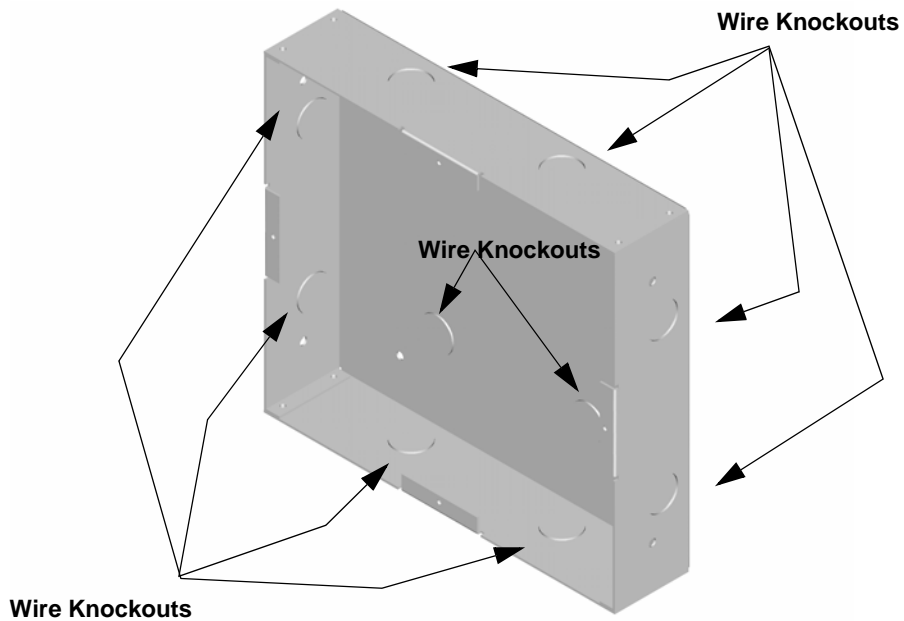

Figure 4.17 Back Box Knockout Locations
2. Remove knockout holes as needed for wires. See Figure 4.17 for backbox knockout locations